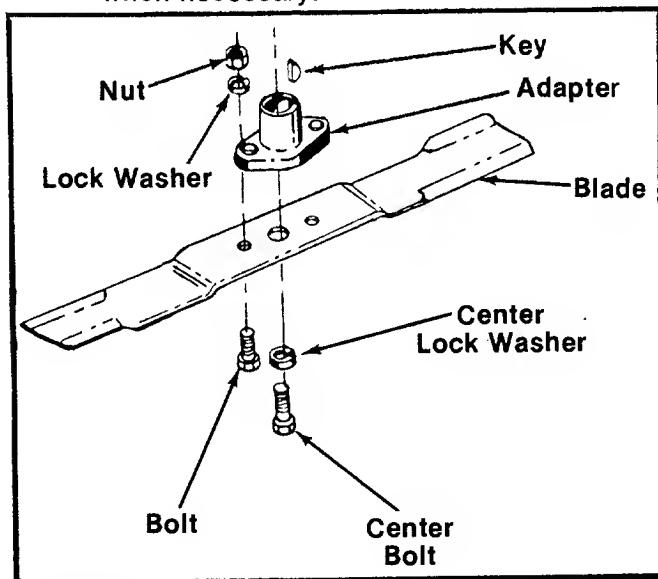

FIGURE 8.
1. Remove the large bolt and lock washer which holds the blade and adapter to the engine crankshaft. See figure 8.